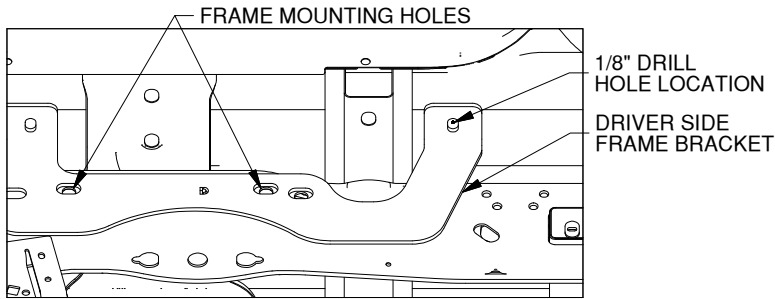

Figure B2: View looking into driver side wheel well.
3. **Check hole locations.** Using the frame brackets, align each bracket to the side of the frame where the brackets will be installed, see Figure B2. Check that the 1/8" holes are centered within the slots in the frame brackets. If the 1/8" drilled holes are not centered re-drill the 1/8" holes until the brackets and the drilled holes are aligned.